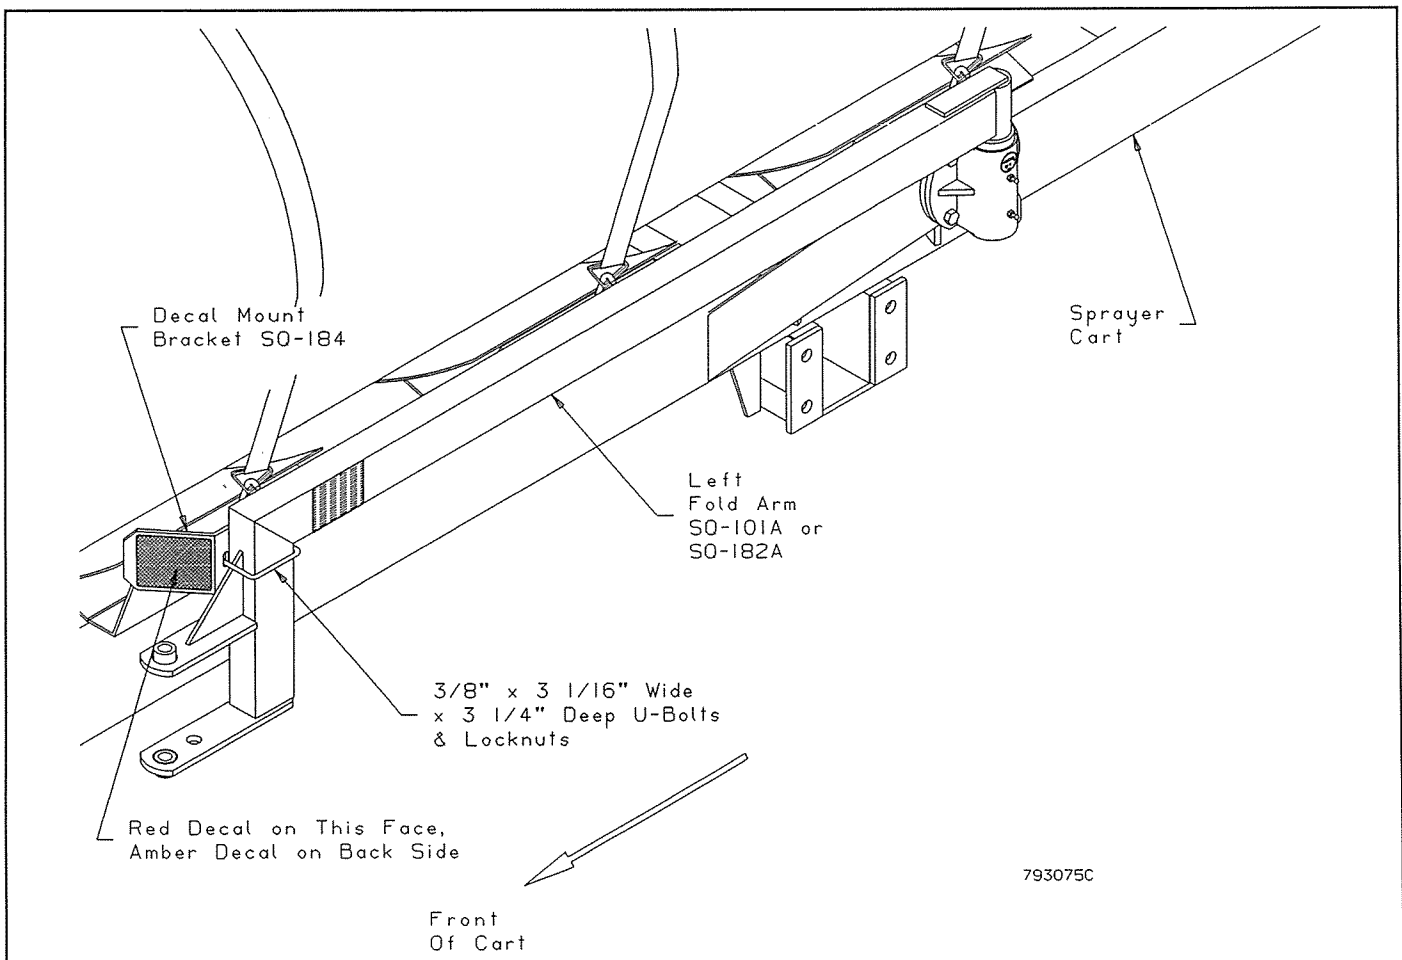

Figure 2.2b: Reflector Decal Mount Bracket SQ-184
5. Install SQ-184 reflector decal mount bracket to left fold arm per Figure 2.2b. Apply red decal to front face and amber decal to rear face per Figure 2.2b.